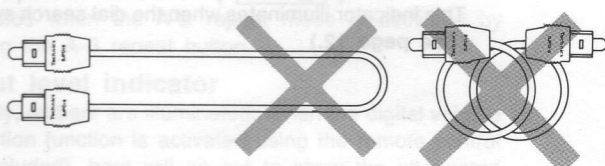

Fig. 1
3. The optical cable must never be bent or coiled tightly (See figure 1). Doing so will permanently damage the optical fiber in the cable and, therefore, prevent proper data transmission. If the cable must be coiled (for storage, etc.), the diameter of the loop should be at least 15 cm (approx. 6 inches). (See figure 2.)